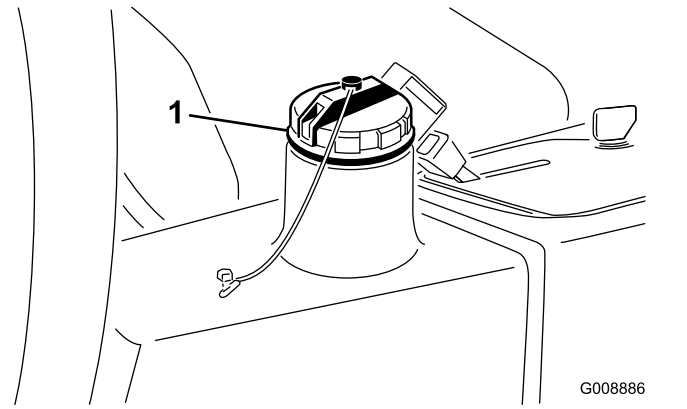

Figure 29
- Mobil EAL EnviroSyn H 46 (US)
2. Clean the area around the filler neck and cap of the hydraulic tank (Figure 29). Remove the cap.